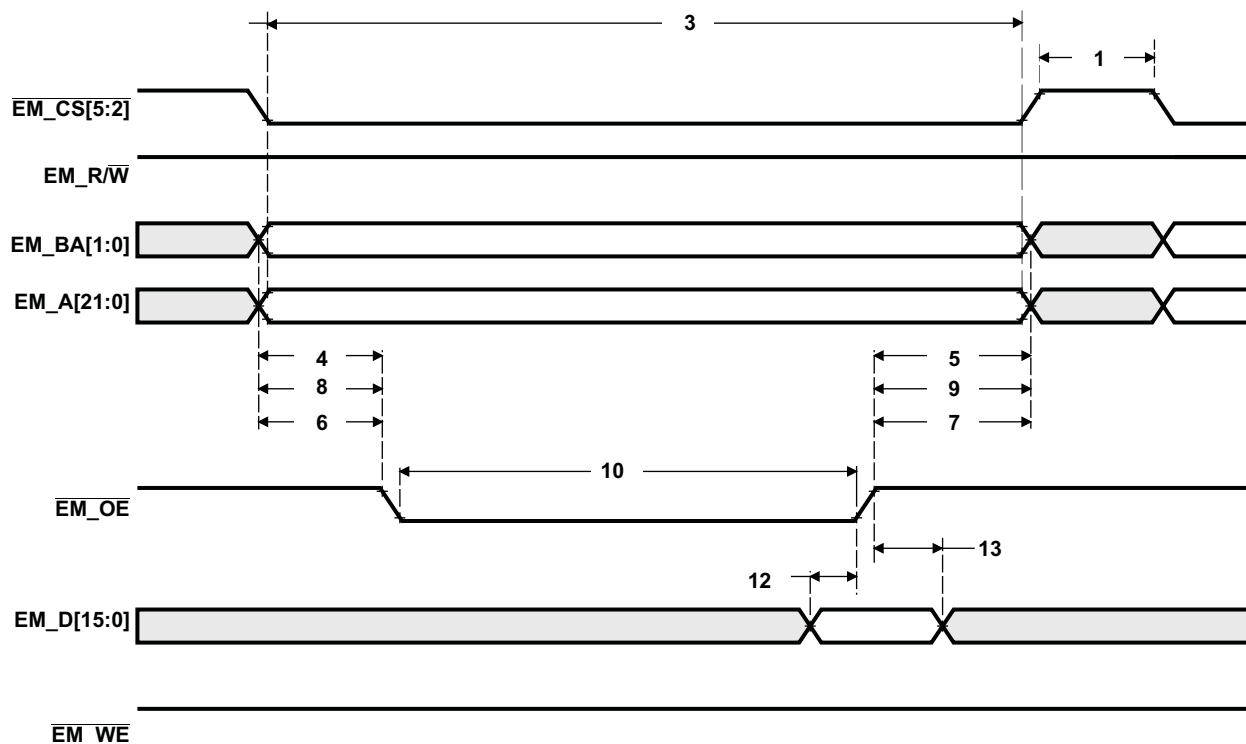
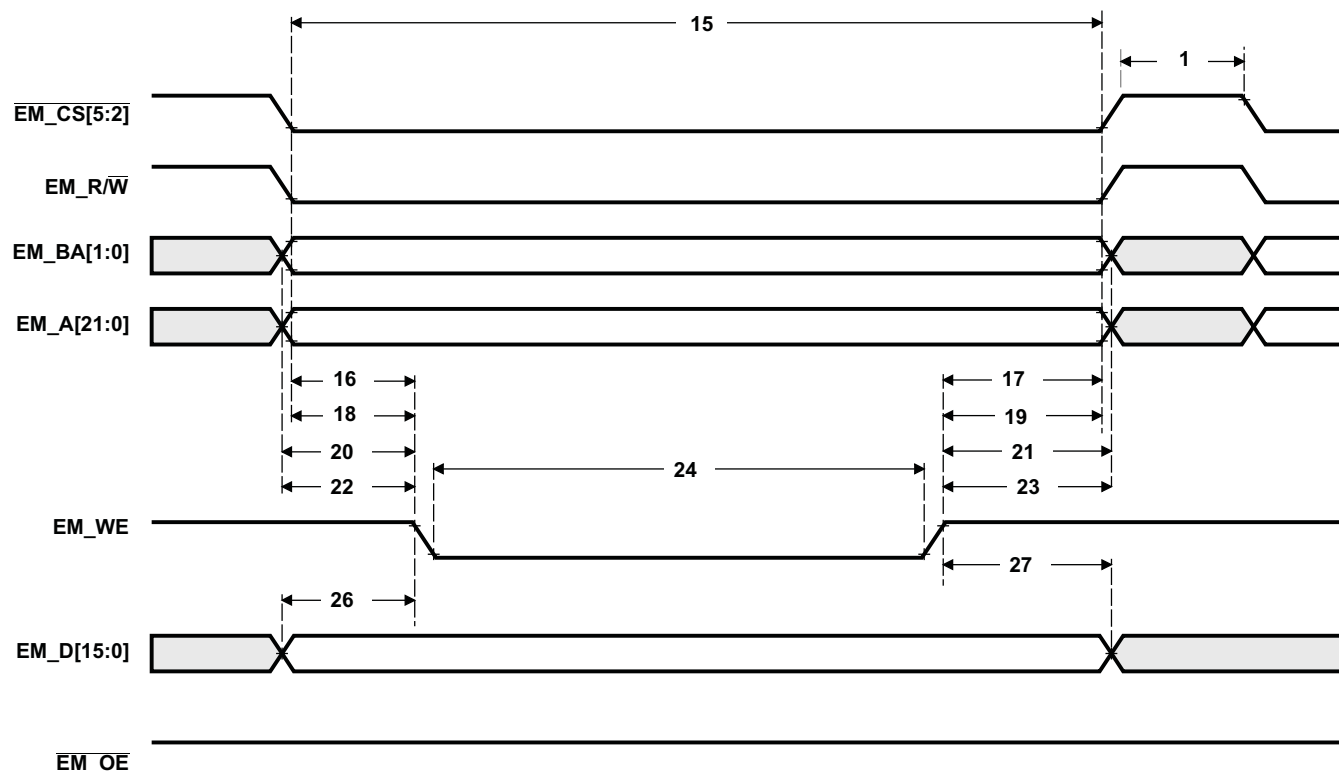

Figure 6-14. Asynchronous Memory Read Timing for EMIFA
Figure 6-15. Asynchronous Memory Write Timing for EMIF
(see Figure 6-14 and Figure 6-15)
Table 6-25. Switching Characteristics Over Recommended Operating Conditions for Asynchronous Memory Cycles for EMIFA Module^{(1) (2)} (see Figure 6-14 and Figure 6-15)
Table 6-25. Switching Characteristics Over Recommended Operating Conditions for Asynchronous Memory Cycles for EMIFA Module ⁽¹⁾ ⁽²⁾ (see Figure 6-14 and Figure 6-15) (continued)